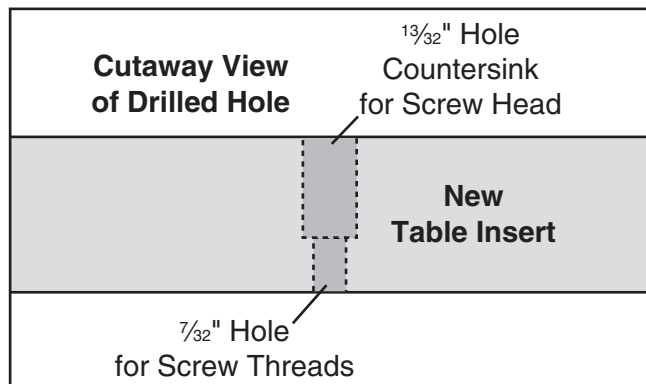

Figure 94. Countersinking mounting holes.
- Countersink the holes you drilled in **Step 7** (see **Figure 94**), so the heads of the mounting screws can be recessed into the table insert when installed.